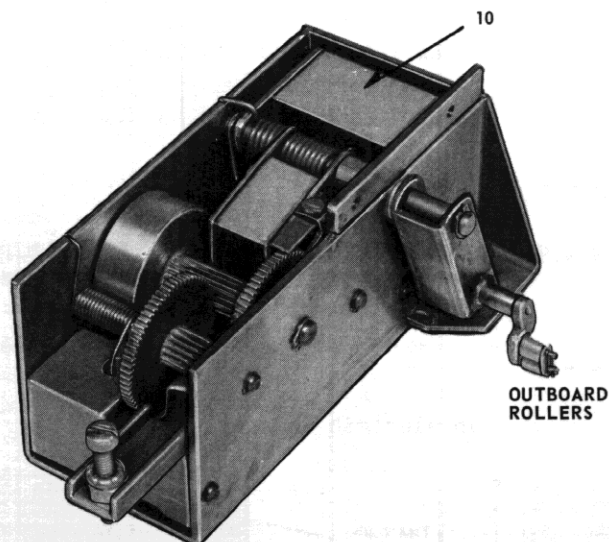

FIGURE 4. New Anti-Shockout Device
| 2.1 | Anti-shock-out device (Figure 4) | 3.2.1 | Lock remote controls so that breaker can not be remotely operated. |
- 5.1.2 Be sure that two little out board rollers (Fig. 4) on new anti-shock-out device are either in front of (or below) trip lever as they are inserted through hole (A) in breaker frame (Figure 2).